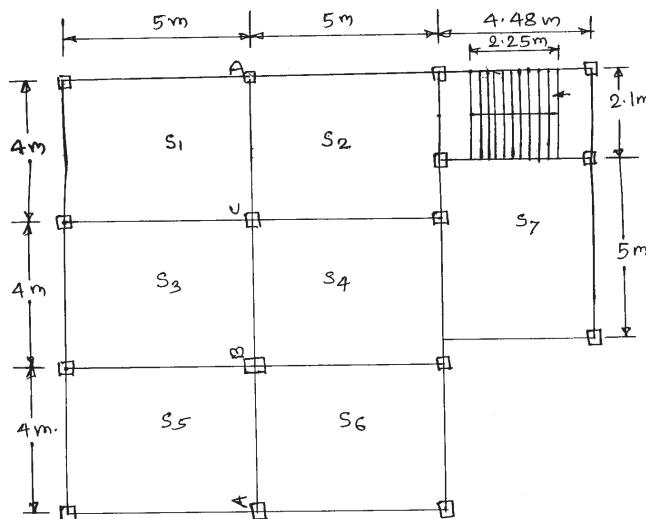

fig. 1
- Q3)** The central line plan of building is as shown in figure. 1 Classify the slabs structurally and design the slab S_1 and S_2 only for flexure by L.S.M.
- Q4)** Design flight I and II of the stair case as shown in fig. 1 for the following data :
- Q5)** A structural part plan showing centre line of the beams and positions of columns as shown in fig. 1. Design beam 'AB' of a continuous floor beam ABCD supporting the slab for the following data.
- Q7)** Design an axially loaded short column at 'C' as shown in Fig. 1 in ground floor and below plinth along with isolated footing for $\ell_1 + 2$ building with following details.